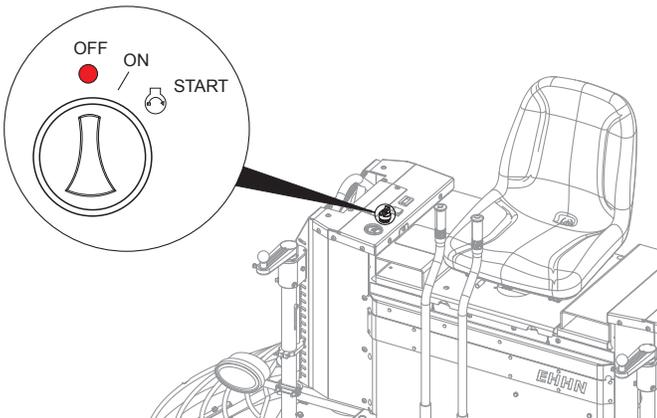

Figure 14. Ignition Switch
2. Insert the ignition key into the ignition switch (Figure 14).
3. Turn the ignition key **clockwise** to the **ON** position (Figure 14).